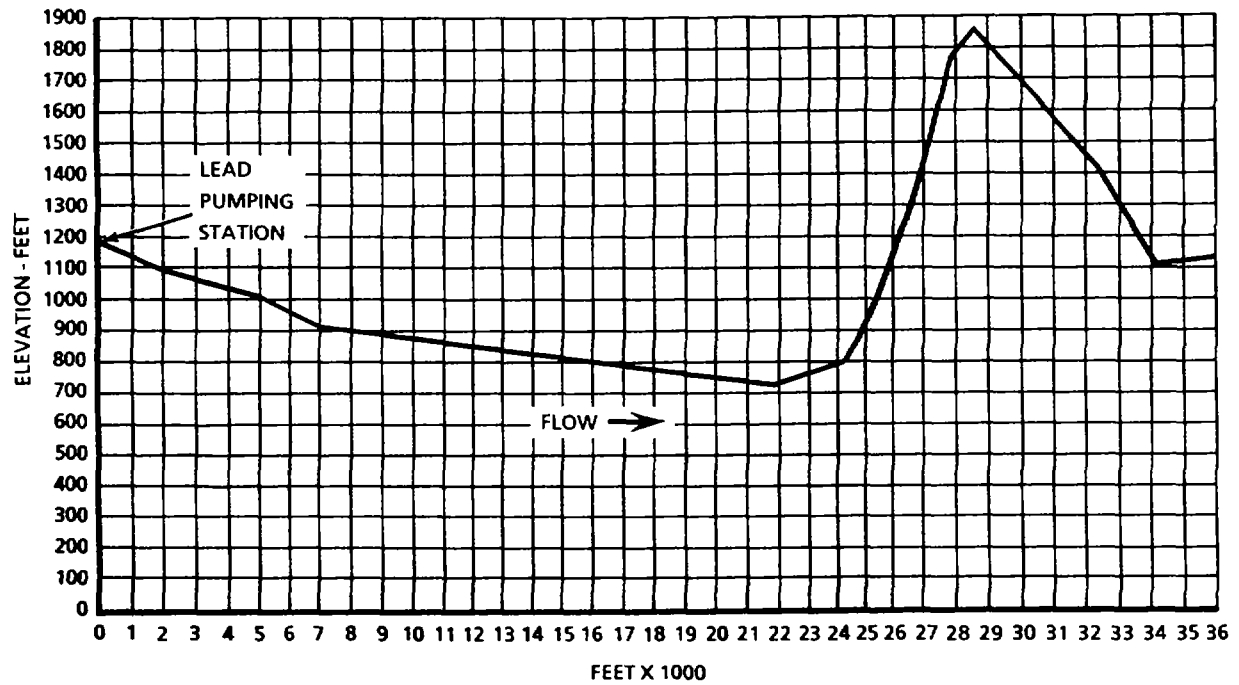

Figure 2-8. Ground Profile Chart.
- (5) In selecting pumping station installation sites, the location of the lead or first pumping station will be determined by location of the water source. Boost pumping stations are intended to be spaced at approximately two mile intervals, assuming that the route is reasonably direct and terrain is level. However, a substantial rise or fall in elevation along the hoseline route may require adjustment of standard spacing intervals.
- (6) Adjustments to spacing between pumping stations (due to elevation change) assure that water pressure will be maintained within optimum operational range. Under normal conditions, TWDS will deliver water to the suction port of each boost pumping station at a pressure of 20 psig. Whenever suction pressure falls below 20 psig, boost pumping stations are designed to begin reducing speed, when operated in the electric mode. Therefore, if an upline pumping station is substantially lower than the next downline station, and the elevation difference has not been offset by spacing adjustment, suction pressure at the downline pumping station may fall below 20 psig and cause that pump to slow down. This in turn will cause remaining downline boost pumping stations to slow down, seriously degrading overall performance of TWDS.
- (7) A ground profile (drawn on graph paper) and a pump spacing triangle can be utilized to determine the location of each boost pumping station. To construct a ground profile, first obtain a topographical map or other source material which provides accurate information concerning terrain along projected hoseline route. Then, using this information, draw a ground profile of the hoseline route on graph paper as follows (refer to figure 2-8).